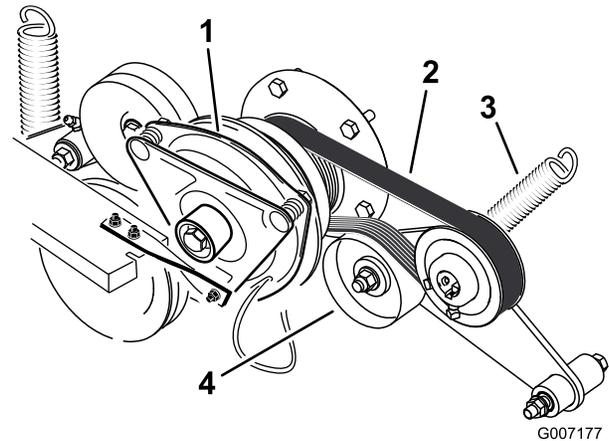

Figure 69
- Remove the spring from the idler arm (Figure 69).
- Install the new belt around the engine and hydro pump pulley (Figure 69).
- Install the spring to the idler arm (Figure 69).